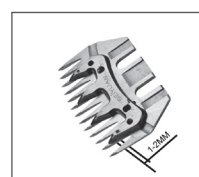

Fig.6
- Adjust the blade positions and make sure that there is 1.5-2 mm between the knife and the sheep in the flat position (Fig. 6), so that grease or dirt on the animals does not interfere with the movement of the blades.